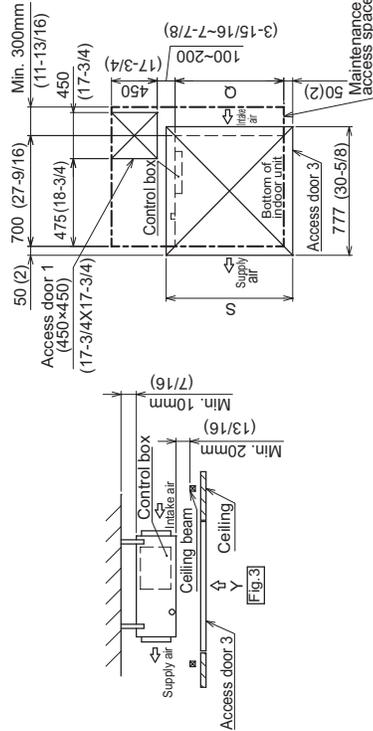

Fig.3 (Viewed from the direction of the arrow Y)
(2) When a space of less than 300mm is available below the unit between the unit and the ceiling.
- Create access door 1 diagonally below the control box and access door 3 below the unit as shown in Fig. 3.